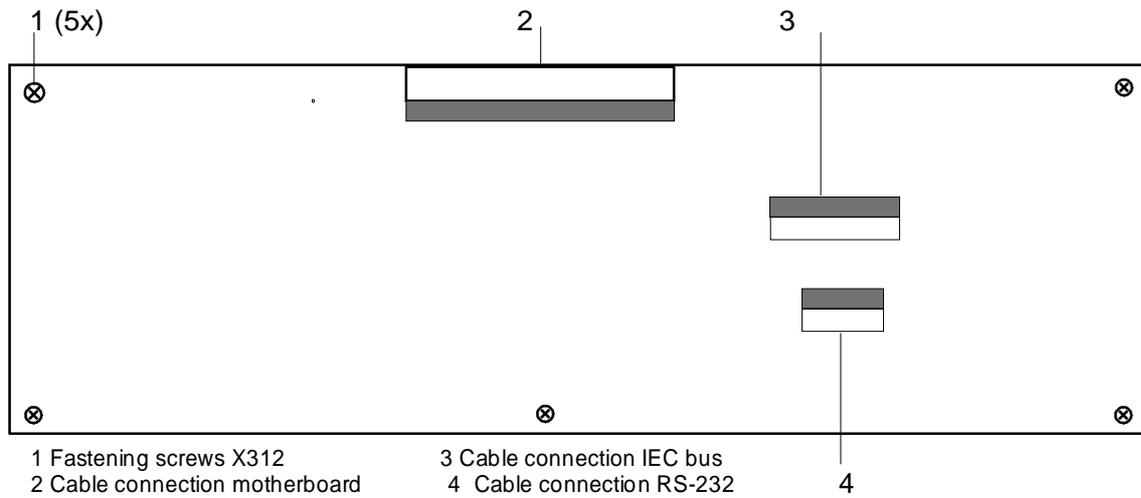

Fig. 4-1 Shielding cover of controller and front panel module
The shielding cover (cf. Fig. 4-1) of the controller and the front panel modules is now freely accessible.
- Detach cable connection to the IEC bus (Fig. 4-1, pos. 3) and to the RS-232 interface (Fig. 4.1, pos. 4). The connection to the motherboard (Fig. 4-1, pos. 2) can remain plugged in.
- Screw off cover (6 screws (Fig. 4-1, pos. 1)) and lift off.